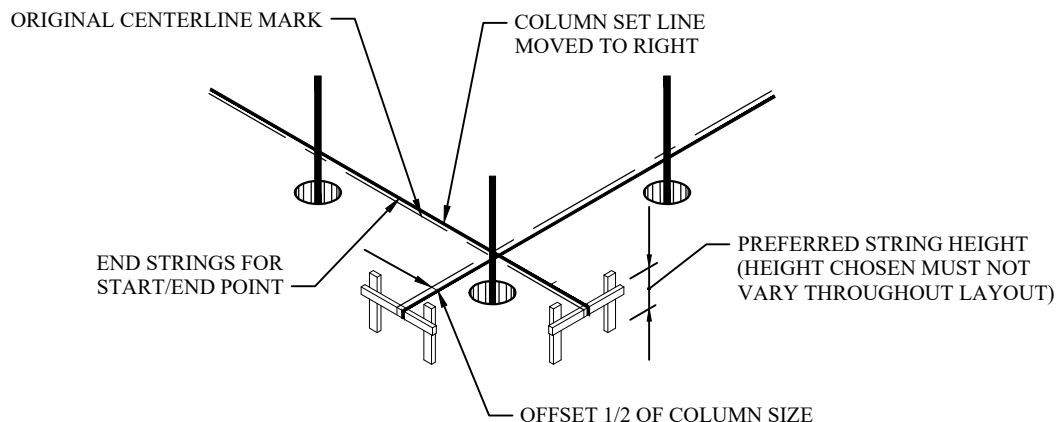

FIGURE 8 - OFFSETTING OF THE COLUMN SET LINES
2. TO FIND THE COLUMN SET LINES, YOU MUST RESTRING THE FOUNDATION LAYOUT. FROM THE CENTER LINE MARKS ON THE BATTER BOARDS, MEASURE 1/2 THE SIZE OF THE COLUMN AND MOVE THE LINES TO THAT MARK. (ALWAYS MOVE THE LINES IN THE SAME DIRECTION TO PREVENT CONFUSION AND MISPLACEMENT OF COLUMNS (SEE FIGURE 8).